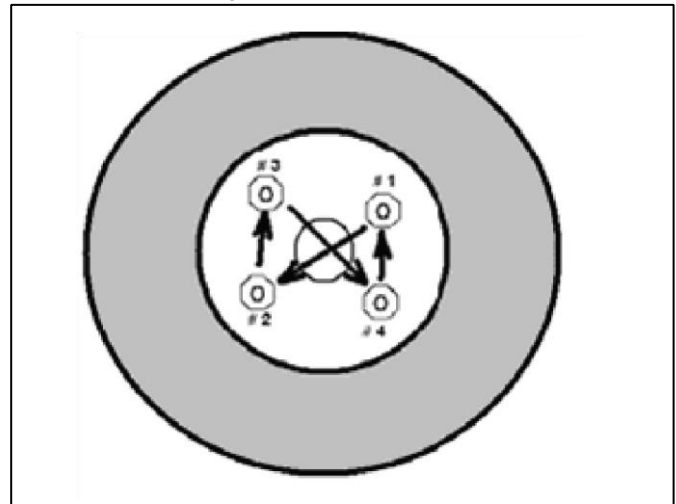

Figure 5-3
8. Reinstall rear wheel/tire assembly and four lug nuts. Engage brake and tighten lug nuts in a criss-cross pattern to a maximum 65-70 ft. lbs. (23-25 Nm) (Figure 5-3). Repeat for other rear wheel. Recheck lug nut torque with vehicle on the ground.